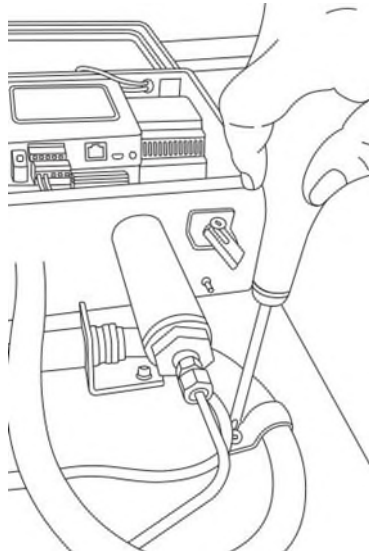

Figure 87. Remove conduit clamp
8. Remove the conduit clamp screw with a Philips screwdriver. Refer to Figure 87.